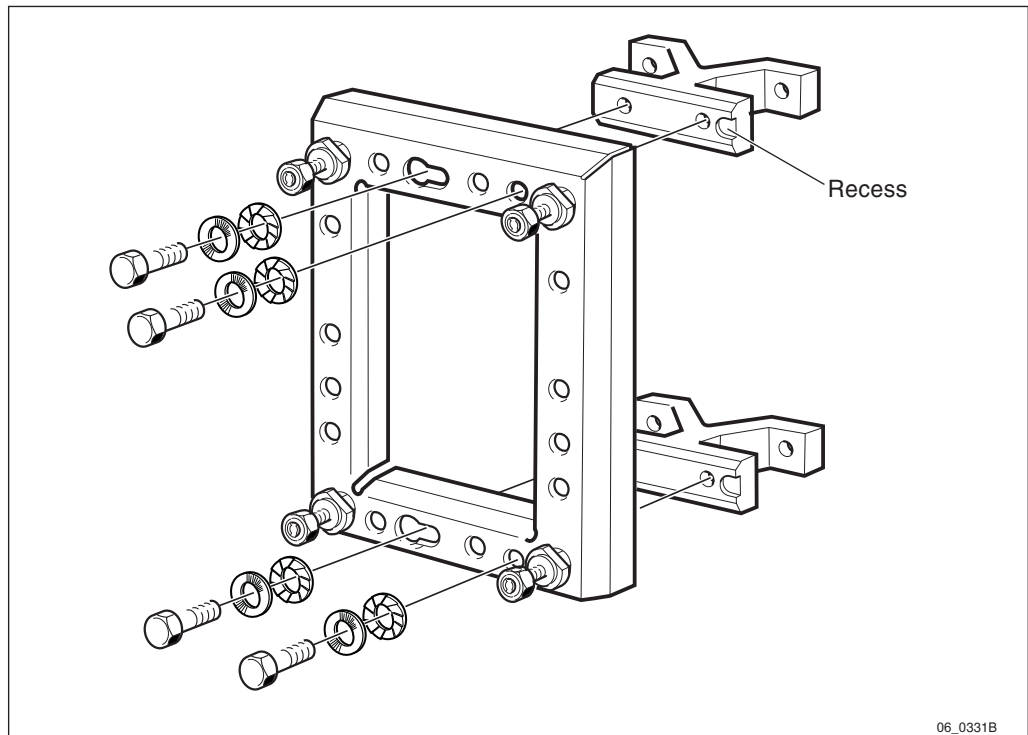

Figure 19 Fastening of clamps and position of recess
2. Fasten the two clamps with the screws, washers and nuts (M10). Make sure that the recess get on the right place, see Figure 19 on page 58.